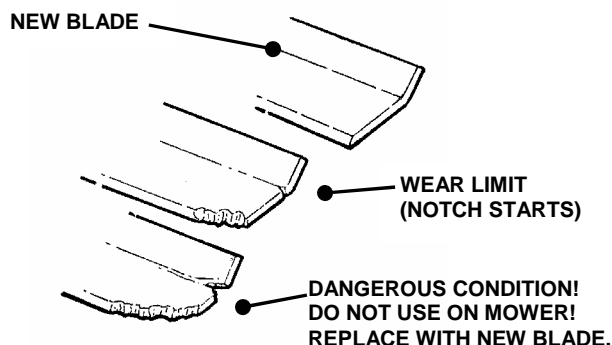

FIGURE 4.2
1. Inspect blades before each use for signs of excessive wear or damage. See Figure 4.2.
1. Inspect blades. If the blade has not been damaged and it has not worn beyond the wear limit it may be sharpened. See Figure 4.2.
1. If blades are worn beyond the limit or have been damaged, they must be replaced. See Figure 4.2.